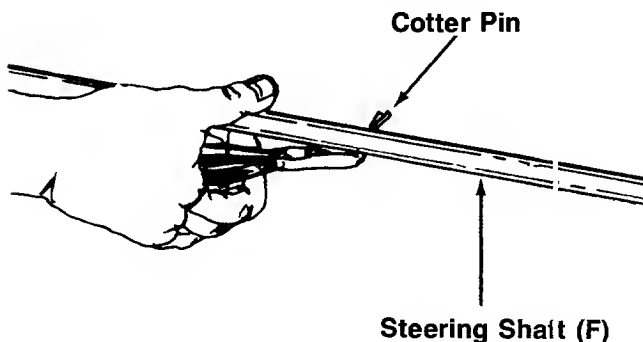

FIGURE 2.—Models 510, 520, 530 and 550
1. Insert the cotter pin into the hole on steering shaft (F). Secure in place by bending the ends of the cotter pin in opposite directions. See figure 2.